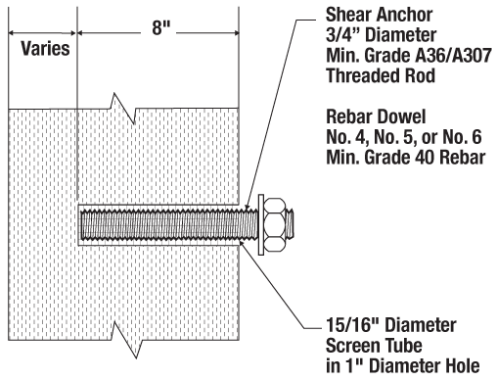

FIGURE 1—CONFIGURATION A (SHEAR ANCHOR OR REBAR DOWEL)¹
4.1.1 Configuration A, Threaded Rods or Steel Reinforcing Bars in Shear (Shear Anchor or Rebar Dowel): Configuration A is the anchor assembly resisting shear loads only, where the outside face of the wall is inaccessible. Configuration A consists of a ³/₄-inch-diameter (19.1 mm) threaded rod or a No. 4, 5 or No. 6 reinforcing bar and a ¹⁵/₁₆-inch-diameter-by-8-inch-long (23.8 mm by 203 mm) steel screen tube. Figure 1 shows details of an anchor installed in Configuration A.
- Installation of assemblies using threaded rods or reinforcing bars in Configuration A intended to resist shear loads only must comply with Sections 4.1.1 and 4.3, and Figure 1 of this report.
drill set on "rotation only," must be used to drill the holes. Figure 1 illustrates an anchor installed in Condition A. Figure 3 illustrates the MPII including drilling, hole cleaning, adhesive injection with screen tubes, anchor insertion, curing and attachment.
SHEAR ANCHOR OR REBAR DOWEL – CONFIGURATION A (FIGURE 1)